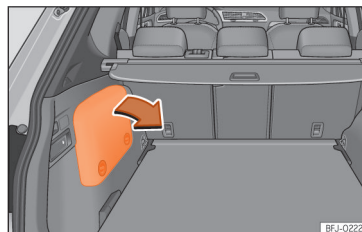

Fig. 249 Location of the battery in the luggage compartment
- Remove the side trim cover to gain access to the 12V battery »» Fig. 249.